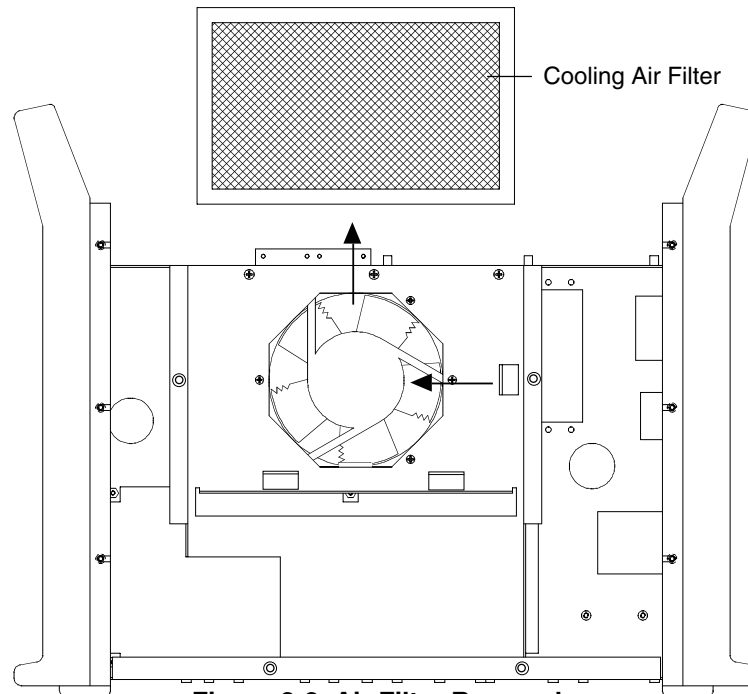

Figure 3-2 Air Filter Removal
1. Turn the Powermax900 power switch to the OFF (0) position, unplug the power cable from the wall receptacle and disconnect the gas supply.
3. Remove the cover, and remove the cooling air filter from the clips by sliding the filter to the left and then up - Fig. 3-2. See *Powermax900 Field Upgrade Kits and Optional Parts* in Section 4 for part number information.